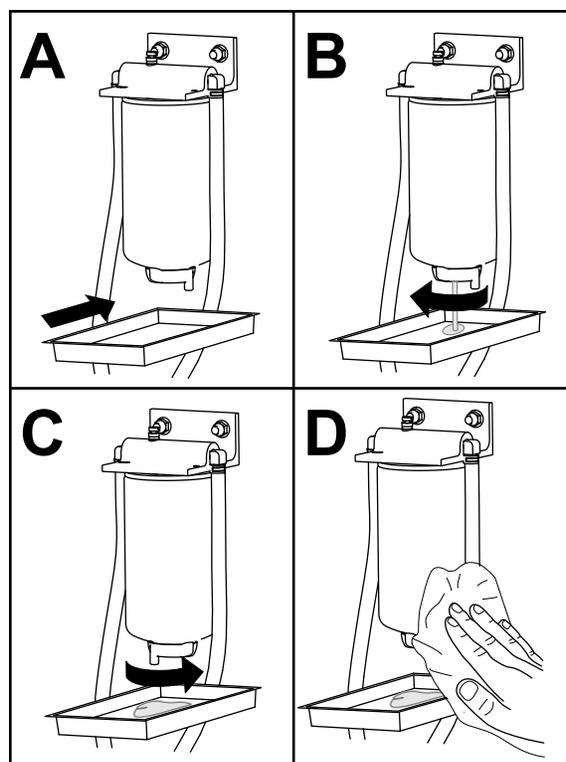

Figure 86
1. Drain water from the fuel/water separator as shown in Figure 86.